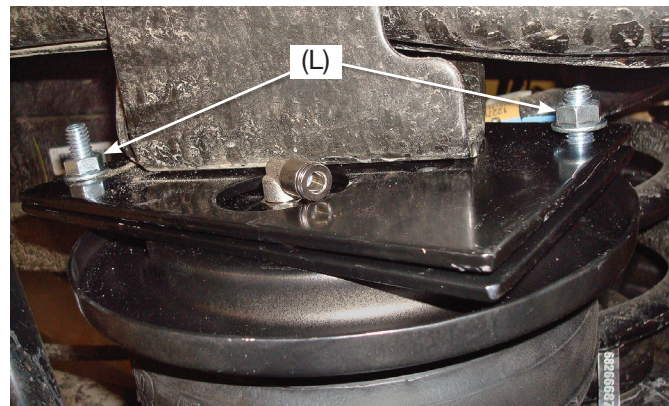

fig. 16
2. Carefully position the upper air spring brackets, making sure that the carriage bolts and fittings line up with the holes in the frame brackets (Fig. 16). If necessary, raise the axle so that the brackets come together, making sure the fittings and the carriage bolts go through the holes and do not bind.
3. Install the 3/8"-16 serrated flange lock nuts (L) onto the upper carriage bolts and torque to 16 lb.-ft. (22Nm) (Fig. 16).